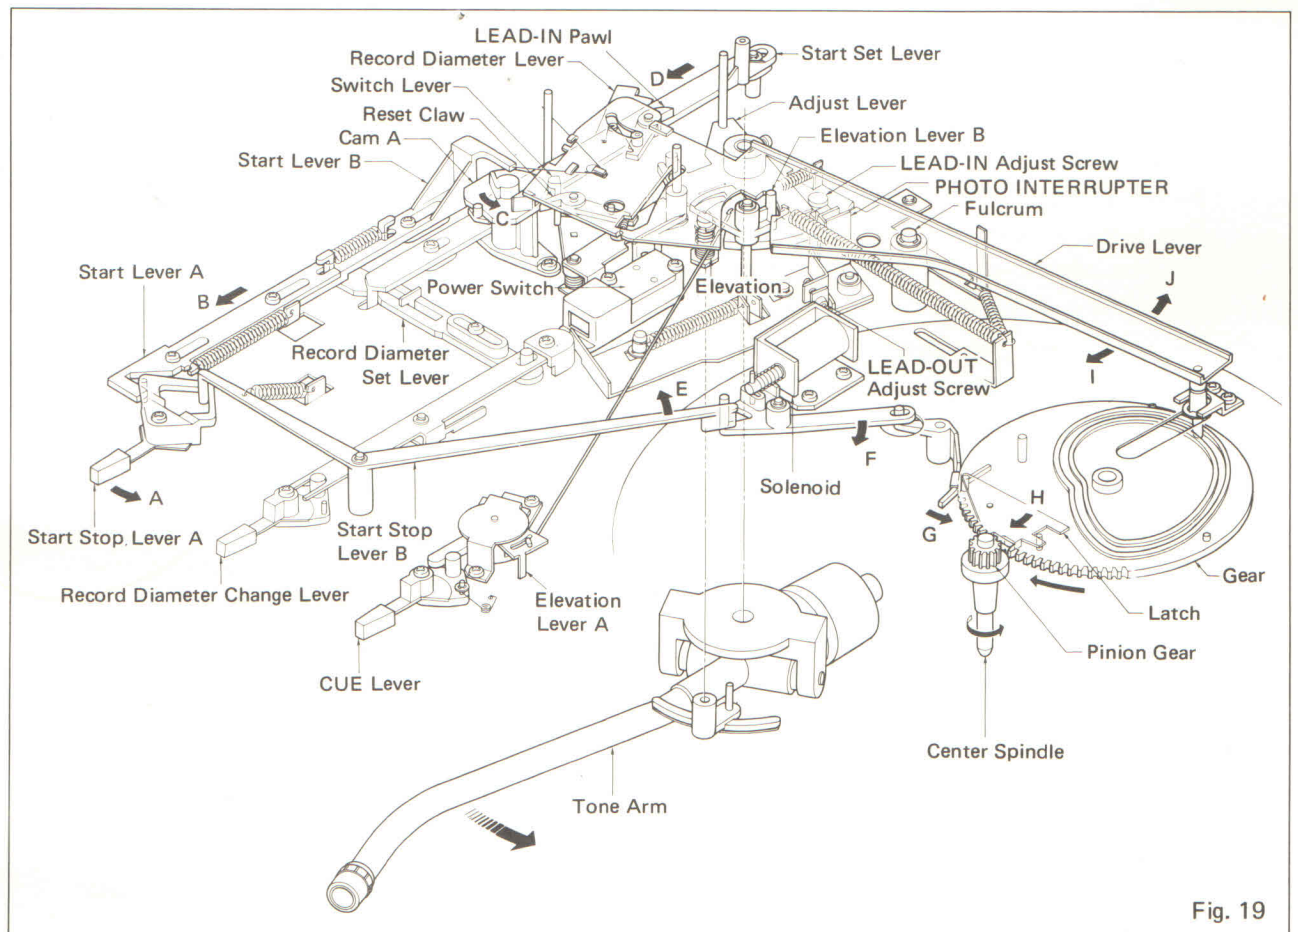
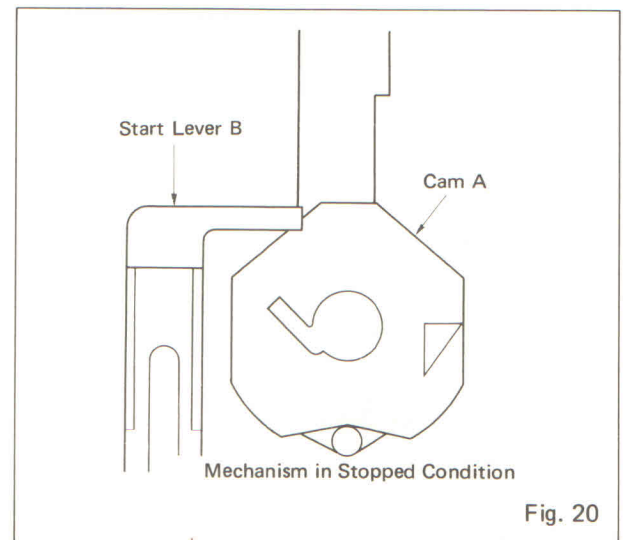

Fig. 19
Fig. 20
1. Start-Up of DD Motor and Lead-In of Tone Arm (Refer to Fig. 19)
- (1) When Start/Stop Lever is pushed in the direction of arrow A, Start Levers A and B will move in the direction of arrow B.
- (2) The projecting portion of Cam A is pulled by the forward end of Start Lever B, turning Cam A in the direction of arrow C (moving from the position of Fig. 19 to Fig. 20). The projecting portion of Cam A will become horizontal as a result of this motion.
- (2) When the Solenoid is actuated, the levers linked with the Solenoid will be pulled in the direction of arrow F shown in Fig. 19. The rest of the operation is the same as that described in Step 1-(4).
- (3) When the Main Gear turns, the Drive Lever will again make see-saw movements, pushing back the post of the Adjust Lever and making the Tone Arm return to the Arm Rest.